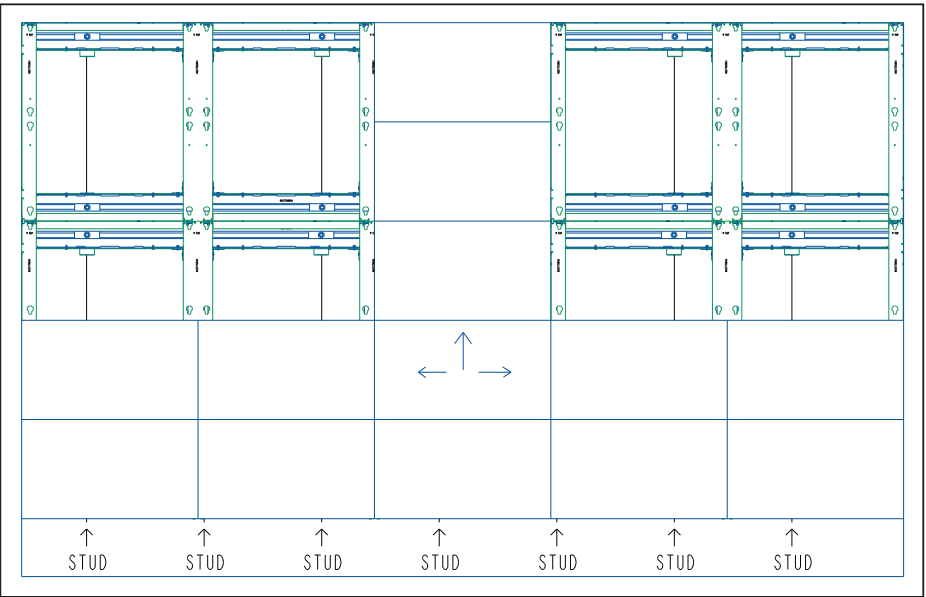

Figure 27: Install Remaining Panels in Display
- 11. Repeat **Steps 1-3** for the remaining panels in the display. Start at the center of the next row up, install the columns, and then fill in from the bottom out from there. Refer to **Figure 27**.